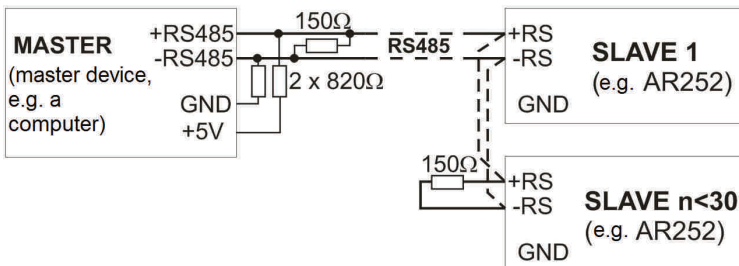

Fig. 12. Pictorial diagram of the RS485 network
- termination and polarizing resistors when the MASTER is at the start of the line (Fig. 12):